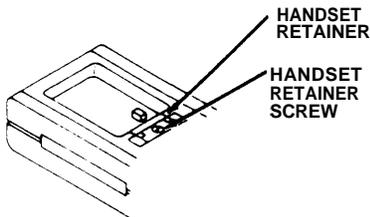

Figure 7
- Remove the screw under the number card and lift out the handset retainer from the upper housing (see Figure 7).